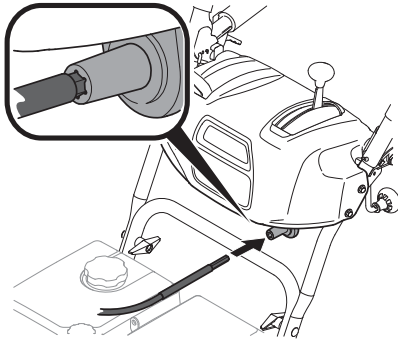

Figure 2-37
6. Insert hex end of flex shaft into chute control rod coupling under dash panel. See Figure 2-37.